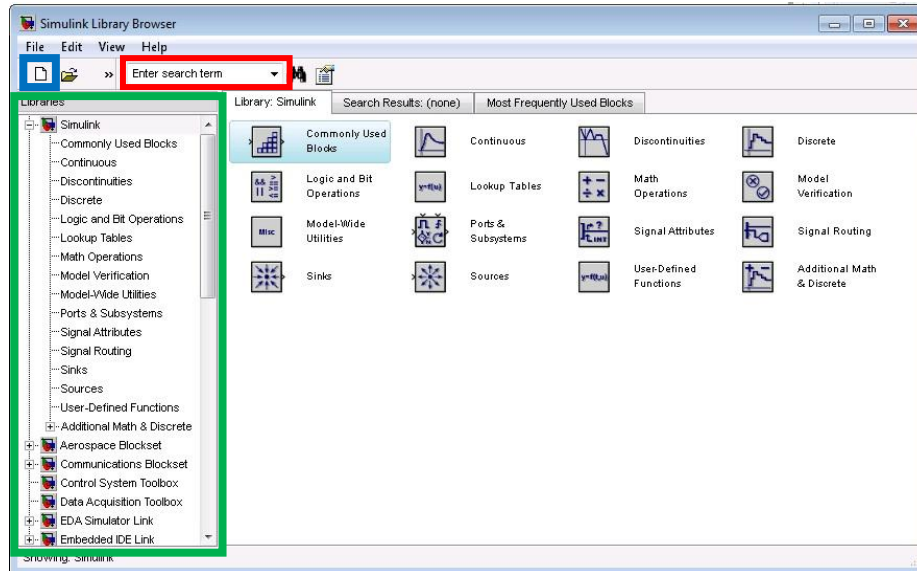

Figure 2: Simulink Library Browser
3. The window that appears is called the Simulink Library Browser. This window contains every component that can be placed into a simulation. The Library Browser window can be searched in two ways, with the search box at the top of the window or with the explorer window to the left of the window. The search bar, highlighted in Red, and the Explorer Window, highlighted in Green are shown in Figure 2, shown below. Create a New Model by clicking on the New Model Button. The New Model button is located in the top left of the Simulink Library Browser window. The New Model button, highlighted in Blue in Figure 2, is shown below.